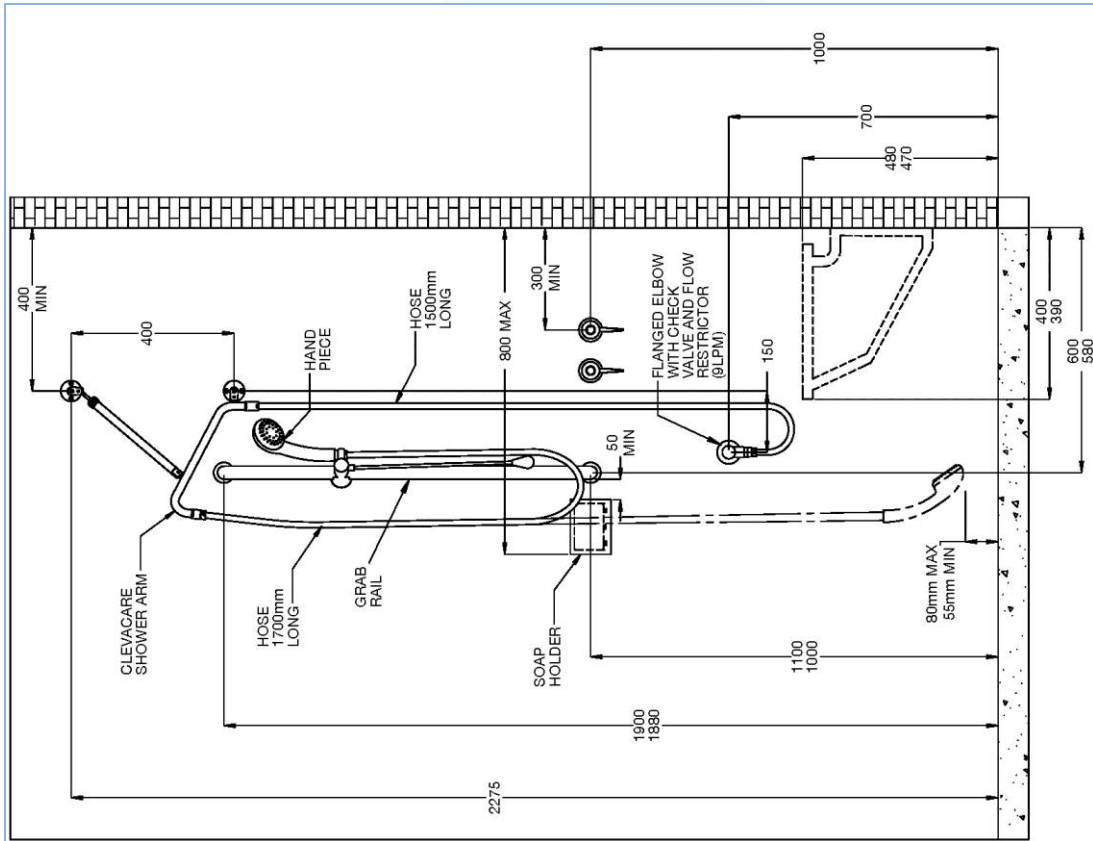

FIG 4. CLEVAKIT INSTALLATION
- Fig 4 shows a Clevakit typical installation conforming to AS1428.1 – 2009.*